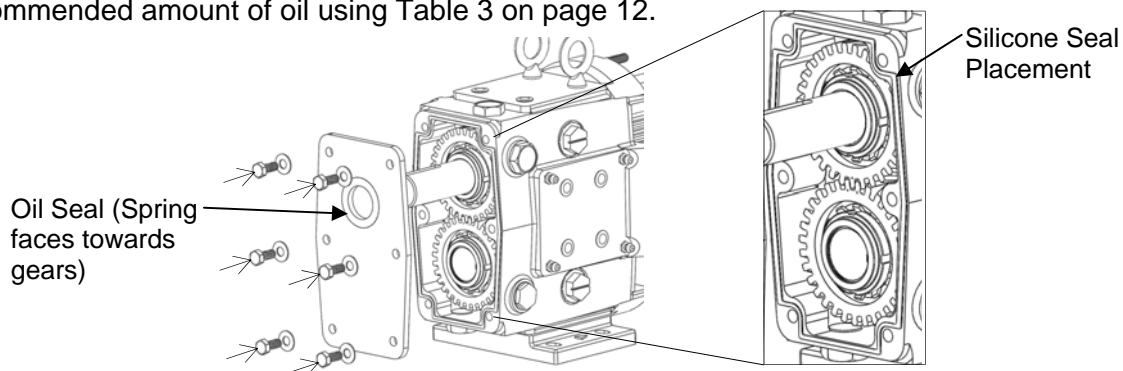

Figure 47: Installing Gear Casing Back Cover
10) Apply a light film of lubricant to the inside and outside diameters of the gear case cover oil seal. Using a press, install the oil seal into the back cover so that it is flush with the outside of the back cover and the spring is facing the gears. Apply a silicone sealant to the edges on the back of the gear case making sure there are no gaps. Slide the back cover onto the gear case, making sure that the shaft is centered on the oil seal, and secure it with the retaining bolts (Figure 47). It is important not to cut the oil seal on the shaft keyway; tape may be used to cover any sharp edges on the shaft. Install the oil plugs and fill the gear case with the recommended amount of oil using Table 3 on page 12.